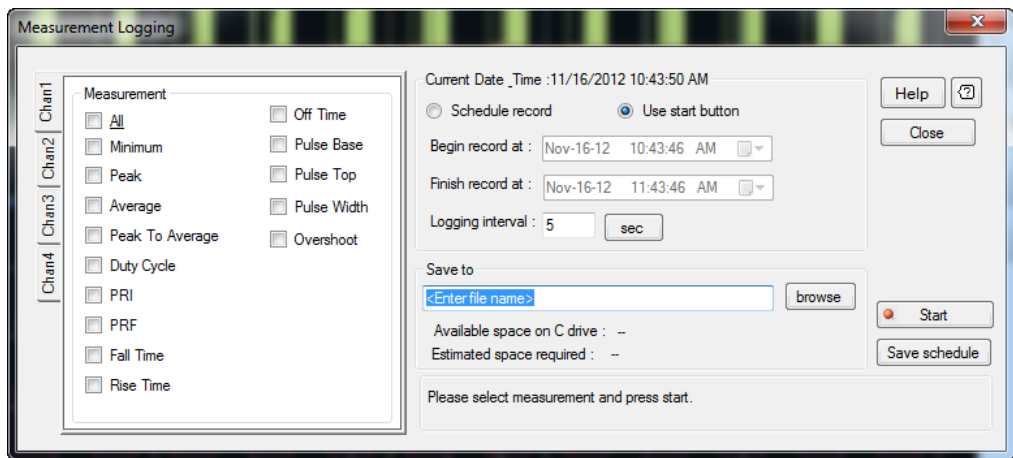

Figure 2-142 Measurement Logging dialog
- 3 The Measurement Logging dialog is displayed as shown in Figure 2-142.